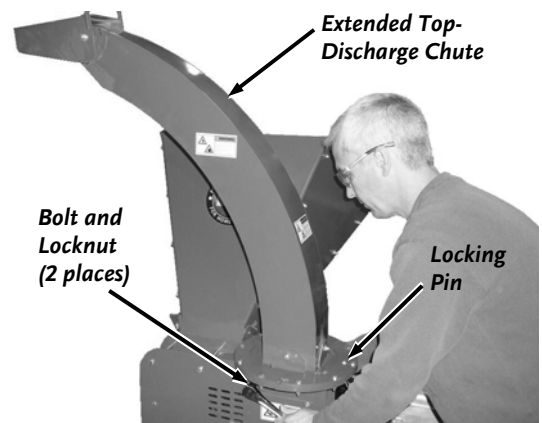

Figure 48
3. Position the Extended Top-Discharge Chute onto the Chipper with the Locking pin on the outside (side furthest away from the hopper) (**Figure 48**).